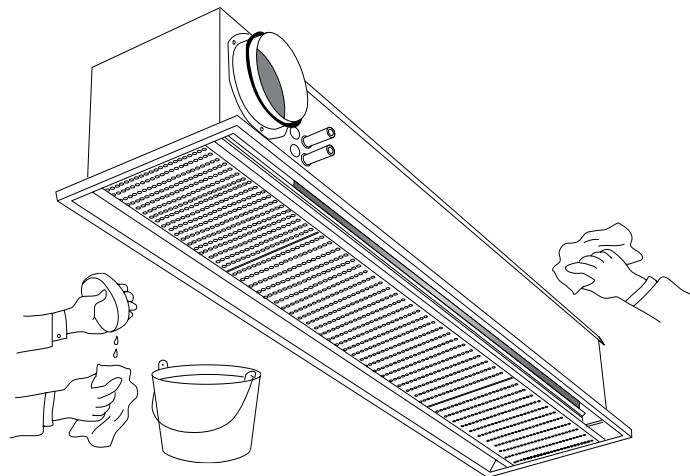

FIGURE 10
- 1) Wipe down the exterior of the chilled beam with soap and water, as needed. (See **FIGURE 10**)